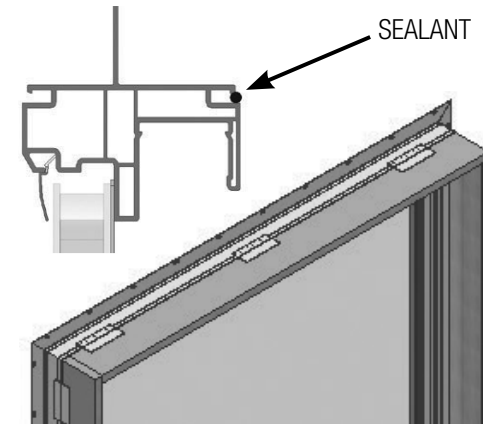

FIG. 1
- A) Place a 1/8" diameter bead of 100% neutral cure sealant around the interior perimeter of the frame in the recess shown. (Fig. 1)